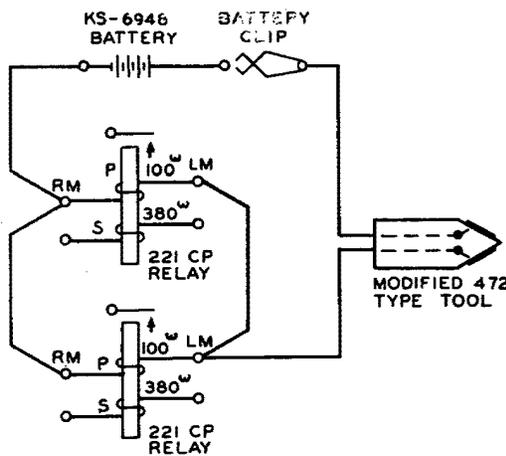

Fig. 22 - Wiring Diagram for Arcing Equipment Shown in Fig. 21
**4.17 Arcing Equipment Required:** The equipment shown in Fig. 21 is required for the arc cleaning method and should be prepared locally. This equipment is wired as shown in Fig. 22 and provides means of producing an arc across the VON contacts when the contacts are broken. Referring to Fig. 21 and 22, two No. 221CP relays are connected in parallel between a KS-6948 battery and a modified 472-type tool. The modified tool is used to connect the arcing circuit across the VON contacts at the test jack of the switch. This equipment may be prepared as follows.
Skin two 13-foot lengths of No. 18 rubber-covered wire approximately 3/8 inch from each end. Solder one end of each lead to a terminal of the tool tip. Pass both leads through the shell of the tool and screw the shell on the tip. Using the No. 18 wire, wire the equipment as shown in Fig. 22 connecting a battery clip to one of the 13-foot leads from the modified tool.